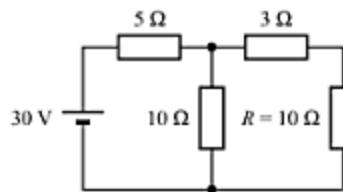

Fig. 4.43
- By applying Thevenin's theorem, find the voltage across the resistance  $R$  in the circuit shown in Fig. 4.43.